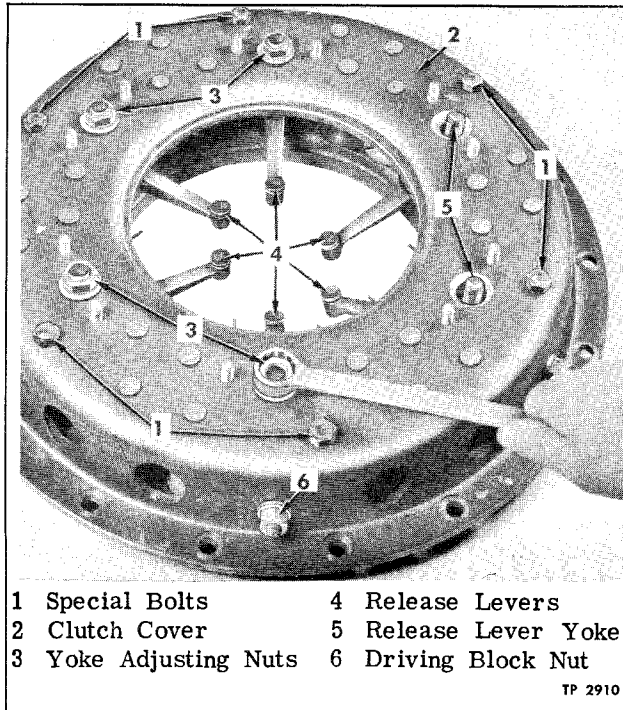

Figure 7—Yoke Adjusting Nut Removal
1. Remove nuts, washers, and thrust plate (48) used to lock each adjusting nut (11).
2. Remove adjusting nuts (fig. 7) from yokes. Special bolts will hold springs in compressed position while removing adjusting nuts.
3. Mark cover (25) and pressure plate (3) so that relative position will be known when reassembling; then remove six special cap screws (9), turning screws alternately and in gradual stages until spring pressure between cover and plate has been relieved. Lift clutch cover (25) off the pressure plate assembly.
5. Remove cotter pins from release lever pins (6 and 7) and pull out pins. Be careful to note position of washers (28), springs (27) and number of rollers (5 and 8) so parts can be reassembled correctly. This completes disassembly of release levers (13), adjusting yokes (10) and pressure plate (3).